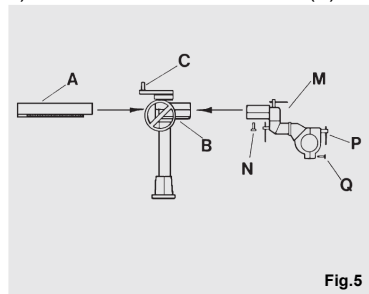

Fig.5
Once the support has been fastened to the workstand, one only needs to attach the feeder unit by using the specially-designed collar (M) (see Fig.5) fitted at the end of the support.